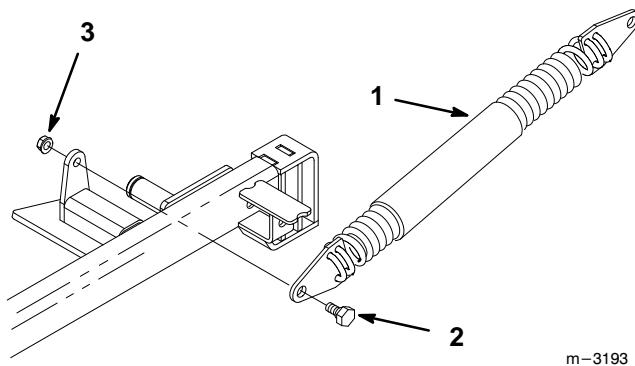

Figure 3
5. Secure spring end plate assembly to carrier frame with $3/8" \times 7/8"$ (23 mm) shoulder bolt and $3/8"$ locknut (Fig. 3).